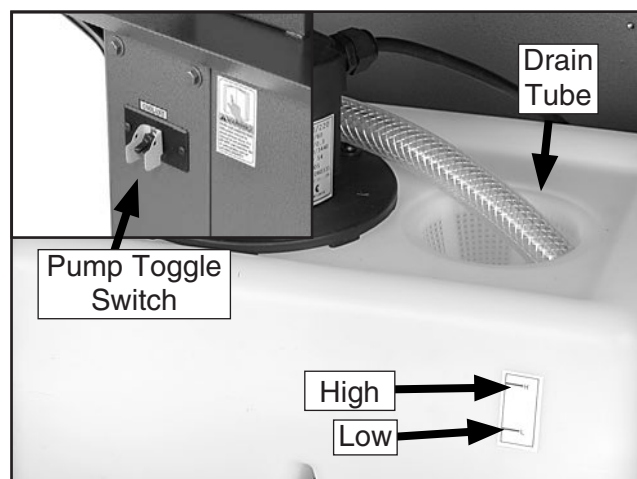

Figure 17. Filter screen and hose.
2. Place the filter screen and drain tube in the reservoir as shown in **Figure 17**.